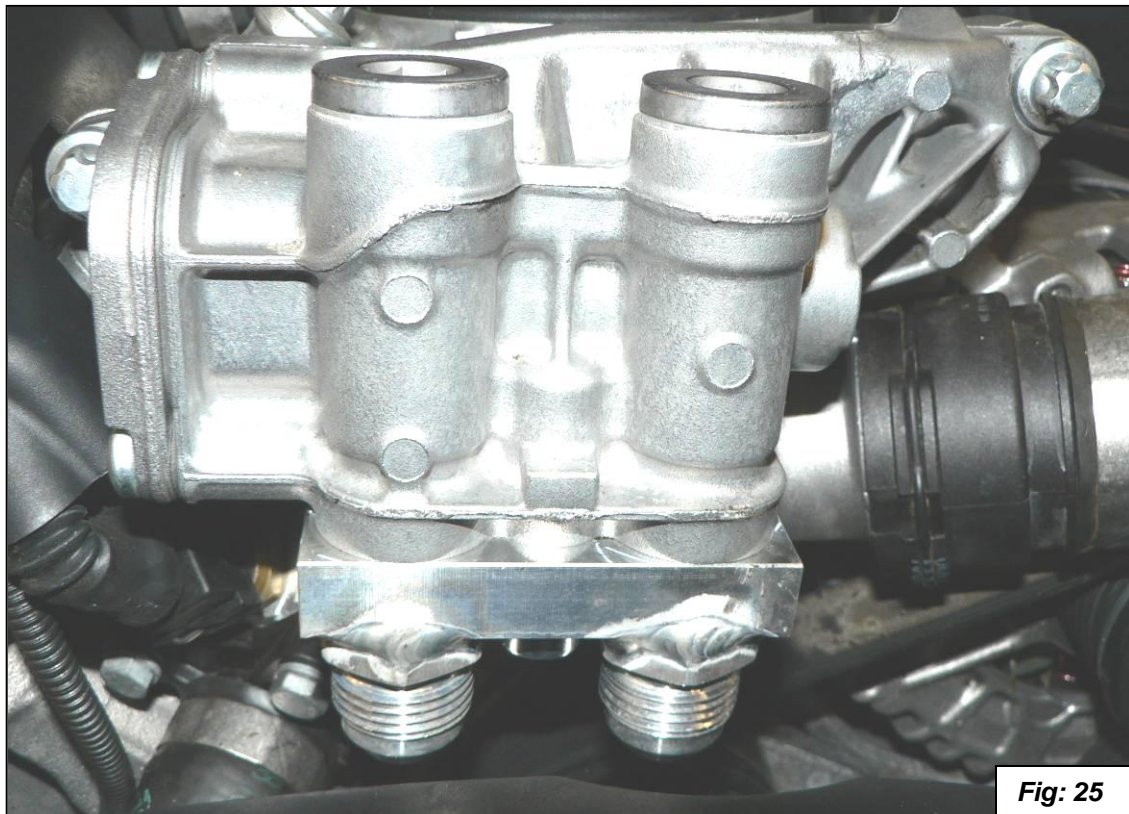

Fig: 25
34. Install the oil line adapter block onto the oil filter thermostat housing. Make sure the O-Rings don't get pinched as you install the block. Torque the bolt to 20Nm (15ft-lbs.). See figure 25.